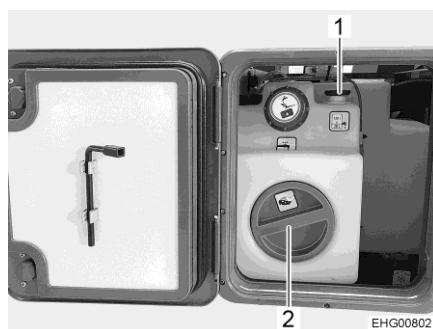

Fig. 206 Water tank with rotary handle
- Remove the cap (Fig. 206,2) of the water tank.